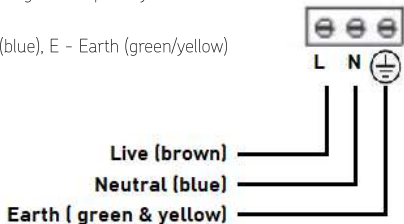

Fig. 4
- Connect the various loads ensuring correct polarity is observed (see Fig. 4)